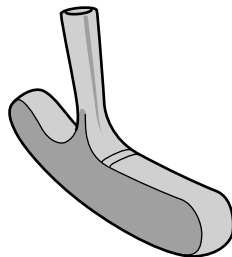

Fig. 3
- (b) Use notes and sketches to describe how the golf putter head shown in Fig. 3 would be die cast. [7]